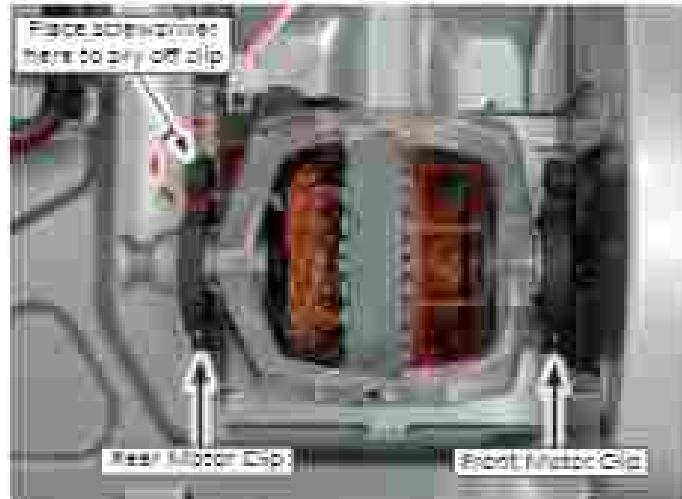

Figure 4 - Drive motor retaining clips
9. Locate the front and rear motor clips as illustrated in Figure 4 below. Using a small flat blade screwdriver, insert the blade of the screwdriver into the pocket at the tip of the clip. Pry the clip off the tab and remove.